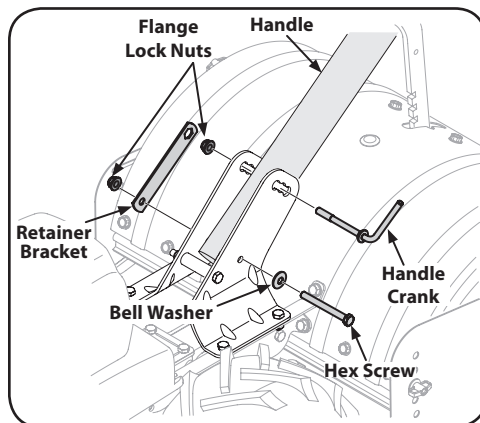

Figure 3-1
2. Insert the handle into the handle mounting brackets, lining up the pre-drilled holes. Insert the 5/16-18 x 3.00 hex screw through the bellville washer and into the bottom hole from the left hand side through to the right side. Place the round hole end of the retainer bracket over the hex screw and secure loosely with a 5/16-18 flange lock nut removed earlier. See Figure 3-1.
3. Install the handle crank into the top hole of the mounting bracket from the left hand side of the handle assembly, secure with the other flange lock nut previously removed. Fit the hex end of the retainer bracket over the flange lock nut. See Figure 3-1.